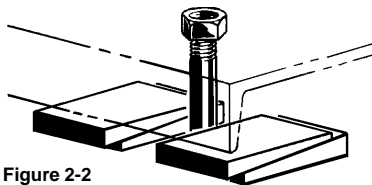

Figure 2-2
- a. Place shims close to the foundation bolts. (Refer to Figure 2-2)